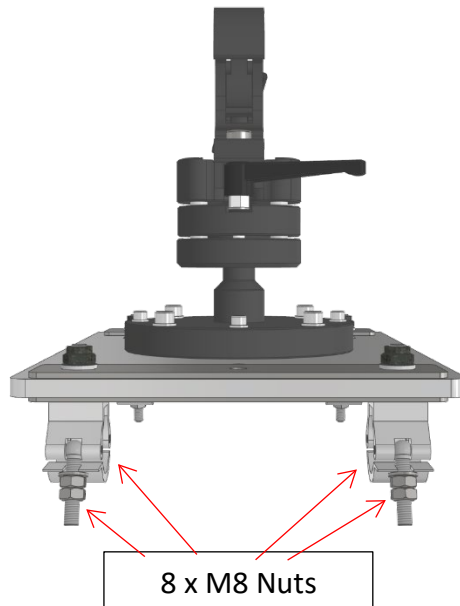

Figure 3 Rigging clamps on PORAD
**Step 1:** Open the rigging clamps by loosen the eight M8 nuts on the clamp-threads (see Figure 3).